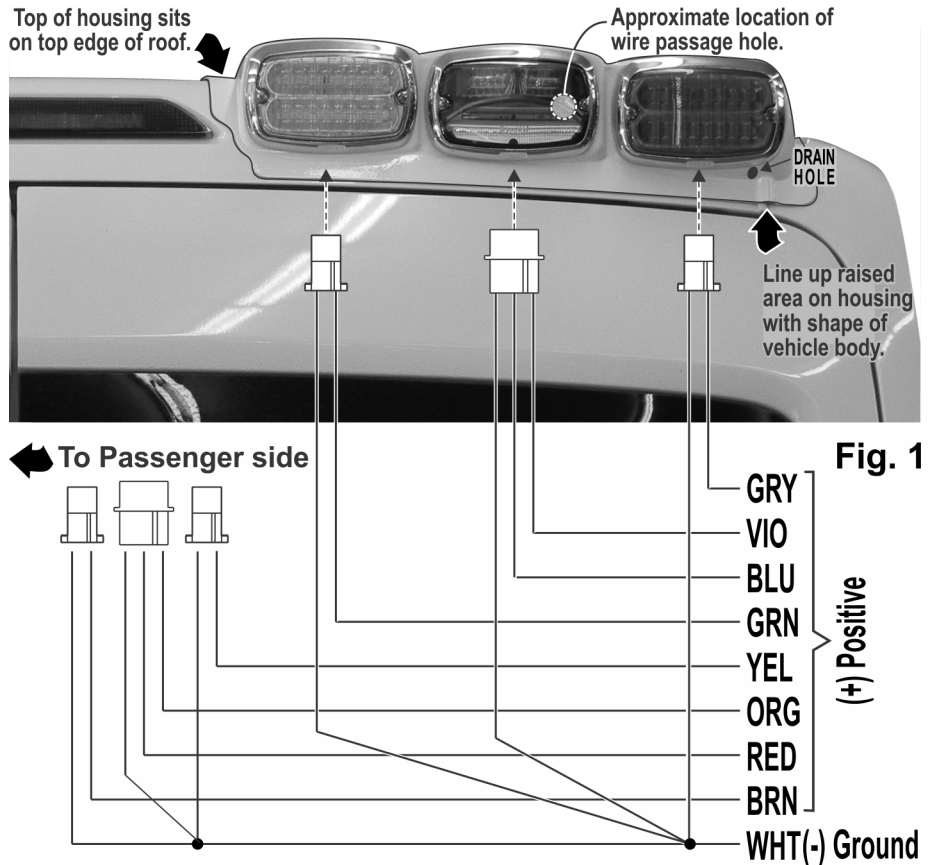
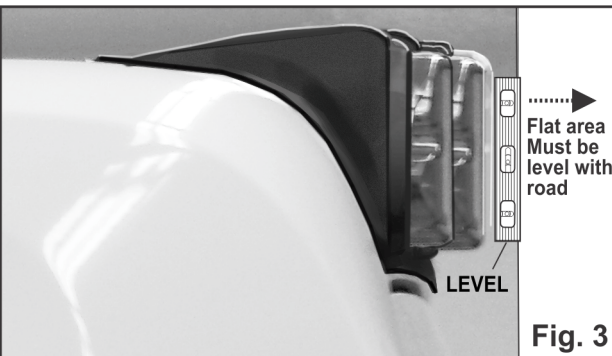

Fig. 1
Fig. 3
4. With the housing in place, put a level on the front flat area of the housing (Fig. 3) and move the housing up or down on the vehicle until the front flat area of the housing is level. The housing is fitted to the vehicle contours so that when it is in the exact mounting location, the housing will sit perfectly on the vehicle and the front flat area will be level. With the housing leveled, check to make sure it is still centered side to side.
2. Drill a 7/16" wire passage hole into the vehicle in the location indicated in Figure 1. One cable operates both sides of the array so only one wire passage hole is needed. The wire hole can be on either the driver or passenger side of the vehicle depending on where the installer is running the cable.
5. Place the housing in its exact mounting position. The housing is contoured to the vehicle. Use the vehicle contours to locate the housing as shown in figure 1. The backing on the mounting tape has leaders. Be sure the leaders are protruding from under the housing so that you can pull them off once the housing is in place. Make sure the front flat area of the housing is level (Fig. 3)